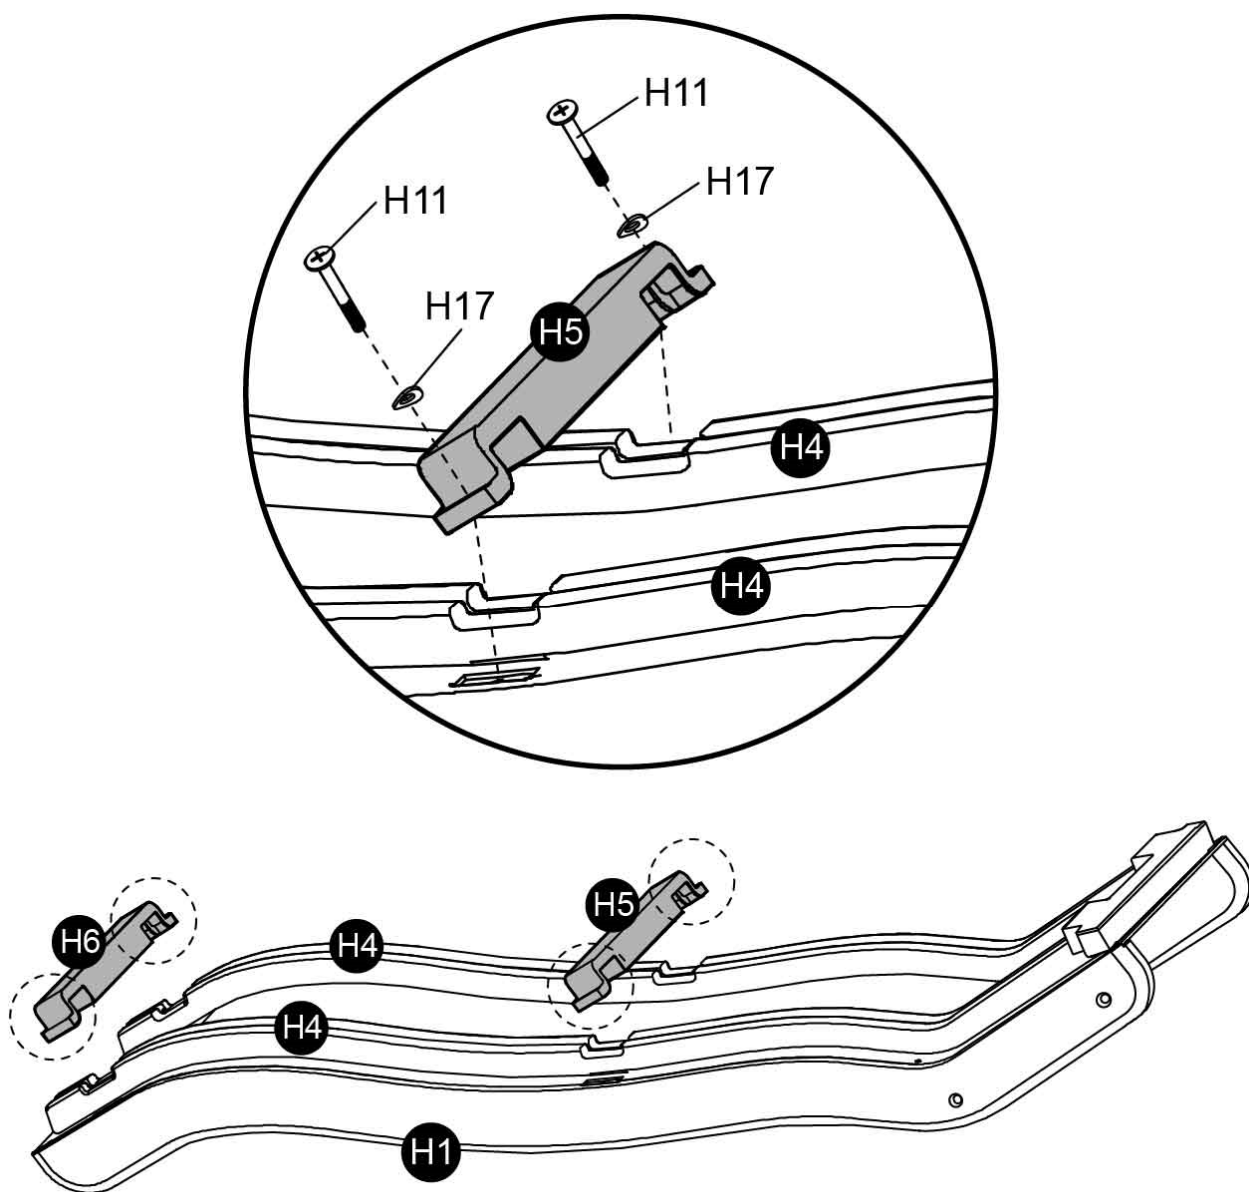

FIGURE9
- Place H5 and H6 into the groove on H4 and secure with H11 and H17 as shown in the enlarged diagram of FIGURE 9.